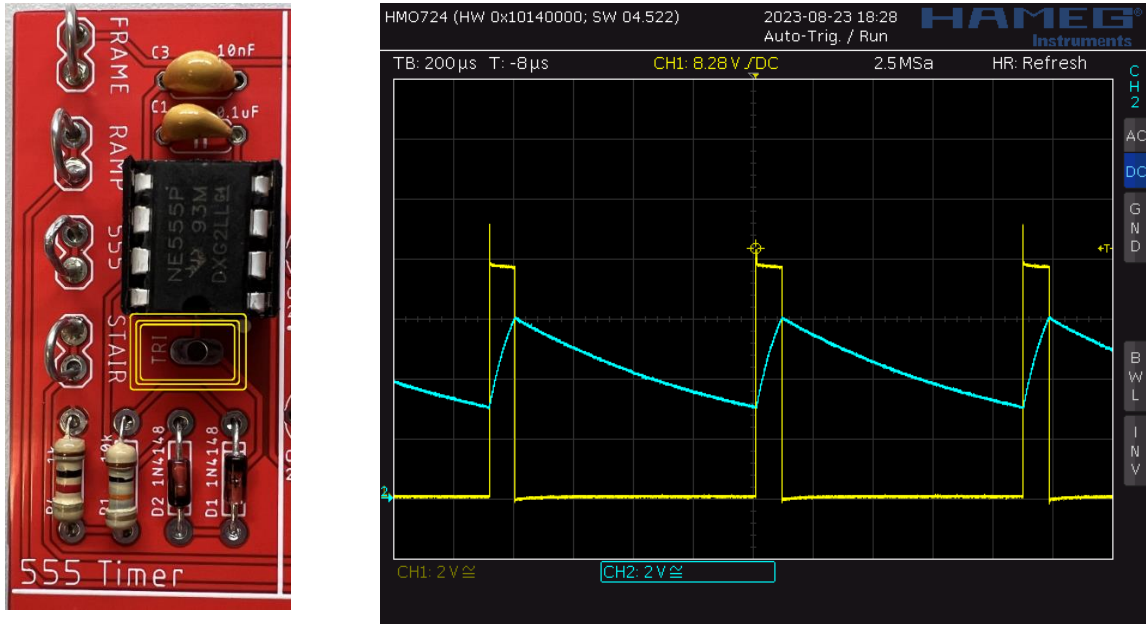

Figure 4: (Let) The TRI pin of the 555 Timer is available at the circled pad. Note, this oscilloscope trace was captured on a Rhode&Schwarz HMO724.
- 3) Set the GND reference of Ch 1 and Ch 2 to the lowest visible reticule. The waveforms will overlap the same as they did in the MultiSim simulation. The TRI pin of the 555 Timer is available by remove the end of the oscilloscope probe and putting the tip into the yellow circled pad in Figure 4. Note that this pad is labeled "TRI".